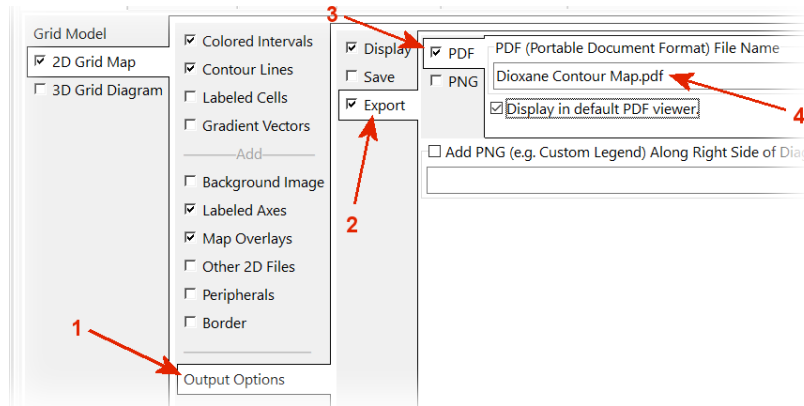

Figure 37
- Click the *Output Options* tab (Figure 37) and enable the *Export* (2) and *PDF* (3) options. Enter “Dioxane Contour Map.PDF” as the name of the PDF file.